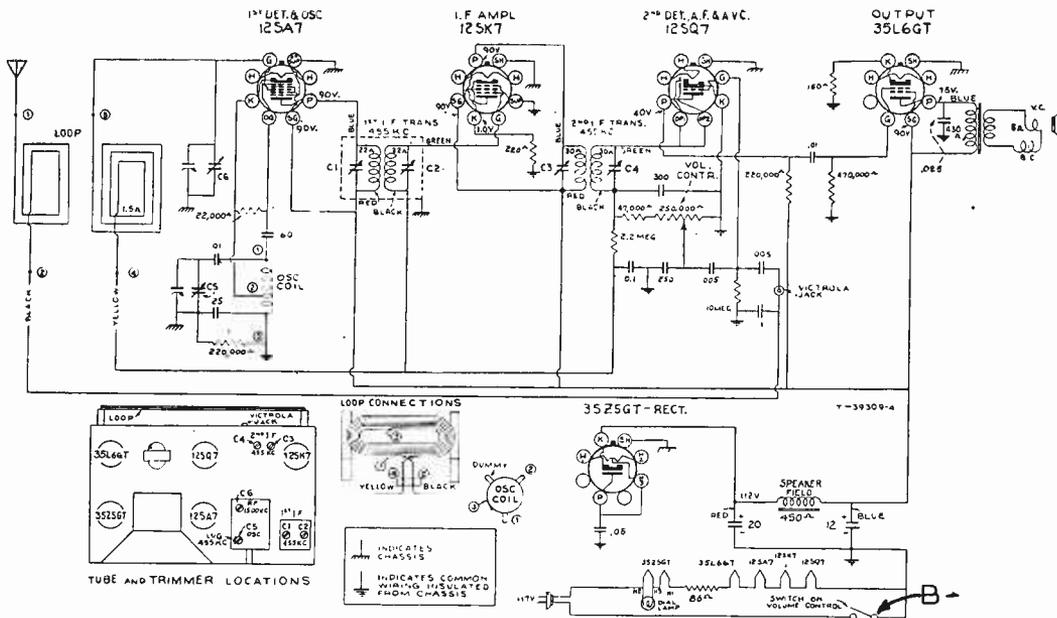

Fig. 7.
*Localizing Modulation Hum.* Let's see how you could go about locating the stage in which hum modulation starts. Fig. 7, a typical a.c.-d.c. receiver, will serve as our example. At the start you know that the modulation hum originates in the r.f. section—between the loop antenna and
*Localizing Steady Hum.* Now suppose the hum is in the power supply or the a.f. section of the receiver shown in Fig. 7. First check the 20-mfd. and 12-mfd. sections of the filter, and test for cathode-to-heater leakage in the 12SQ7 and 35L6 tubes. If this does not locate the hum source, use the *circuit blocking* method of localization. That is, prevent the audio signal from passing some point: if hum is still heard, it is getting in between this point and the speaker. Otherwise it is farther back toward the input.